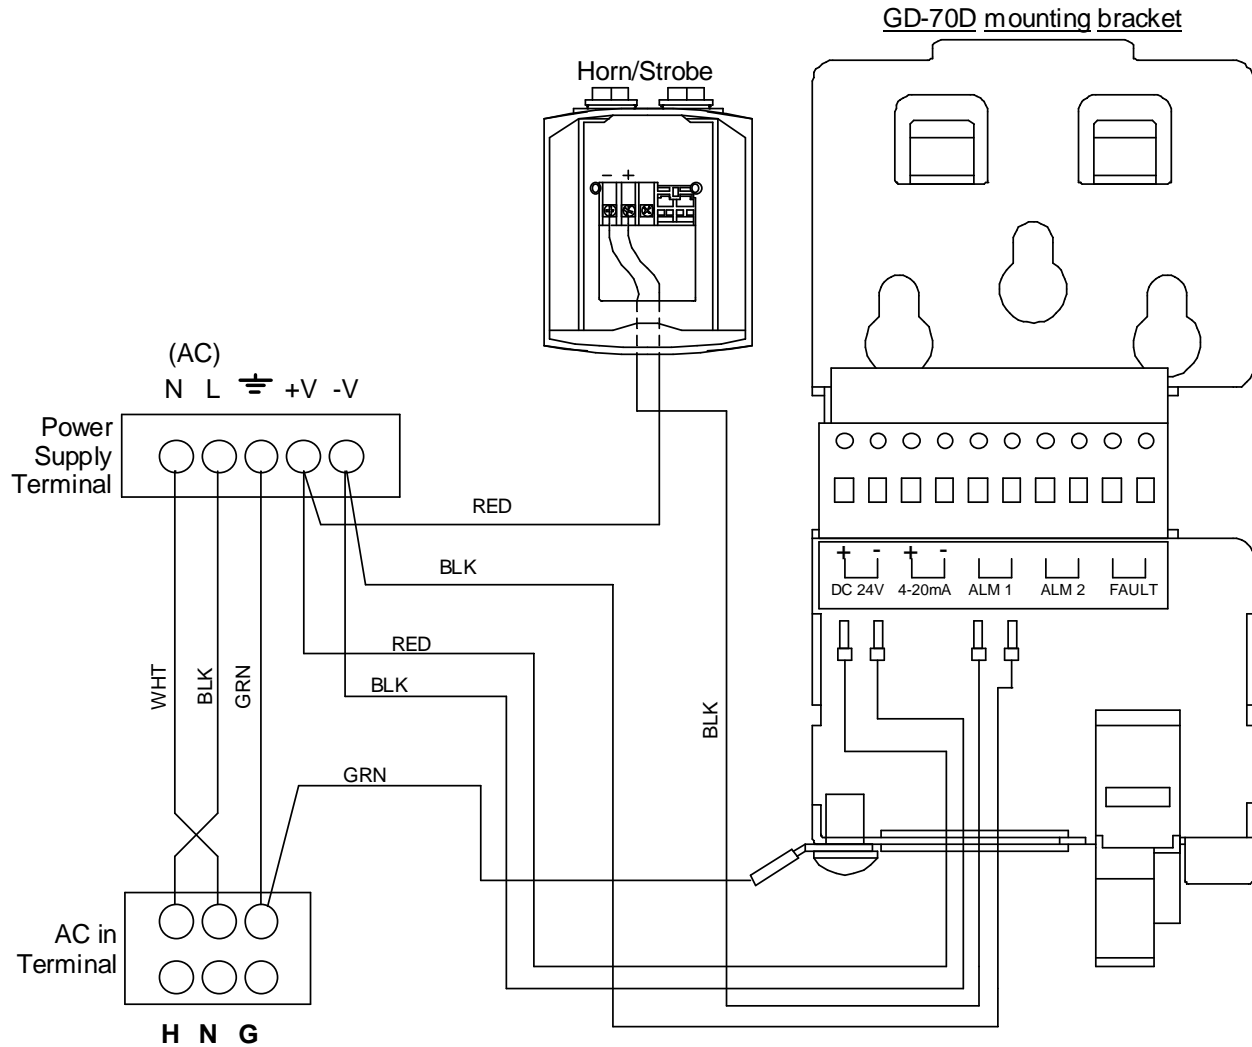

Figure 5: Factory Wiring
5. Factory wiring is shown below in Figure 5.